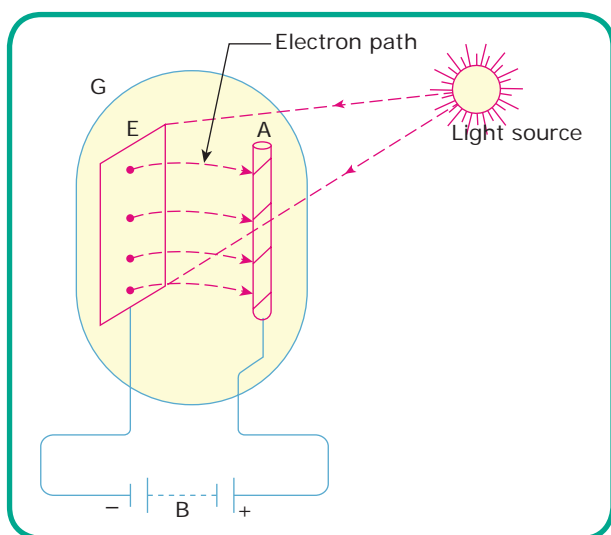

Figure 3.8 Photo electric emission
2. **Photo electric emission:** In this method, energy of light is falling upon the metal surface is transferred to the free electrons within the metal to enable them to leave the surface as shown in Figure 3.8. The greater the intensity (i.e., brightness) of light beam falling on the metal surface, the greater is the photoelectric emission.